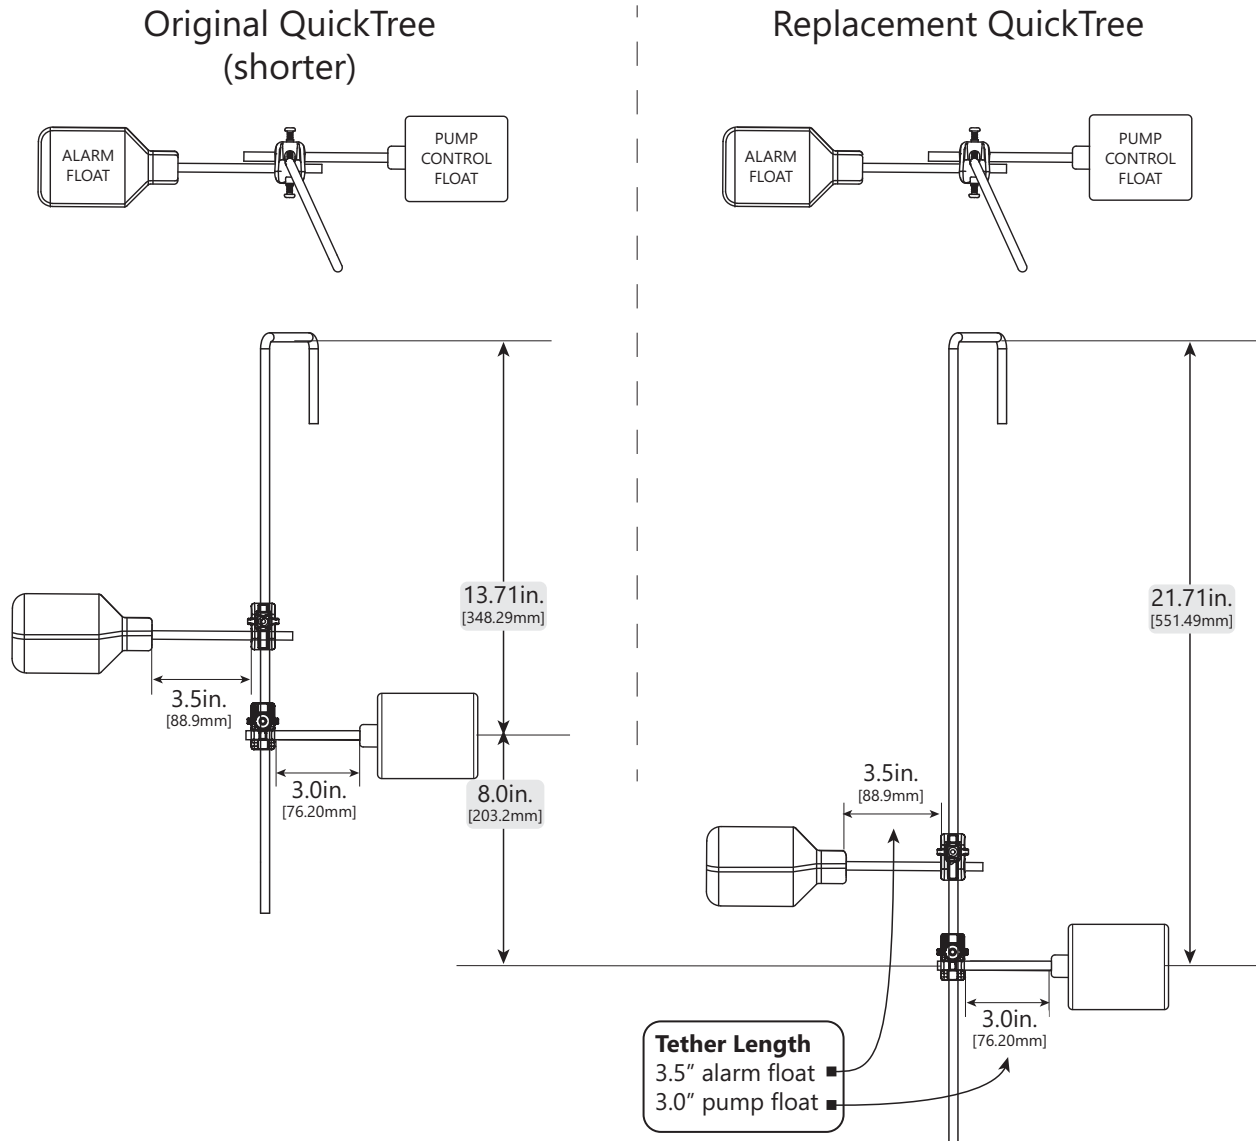
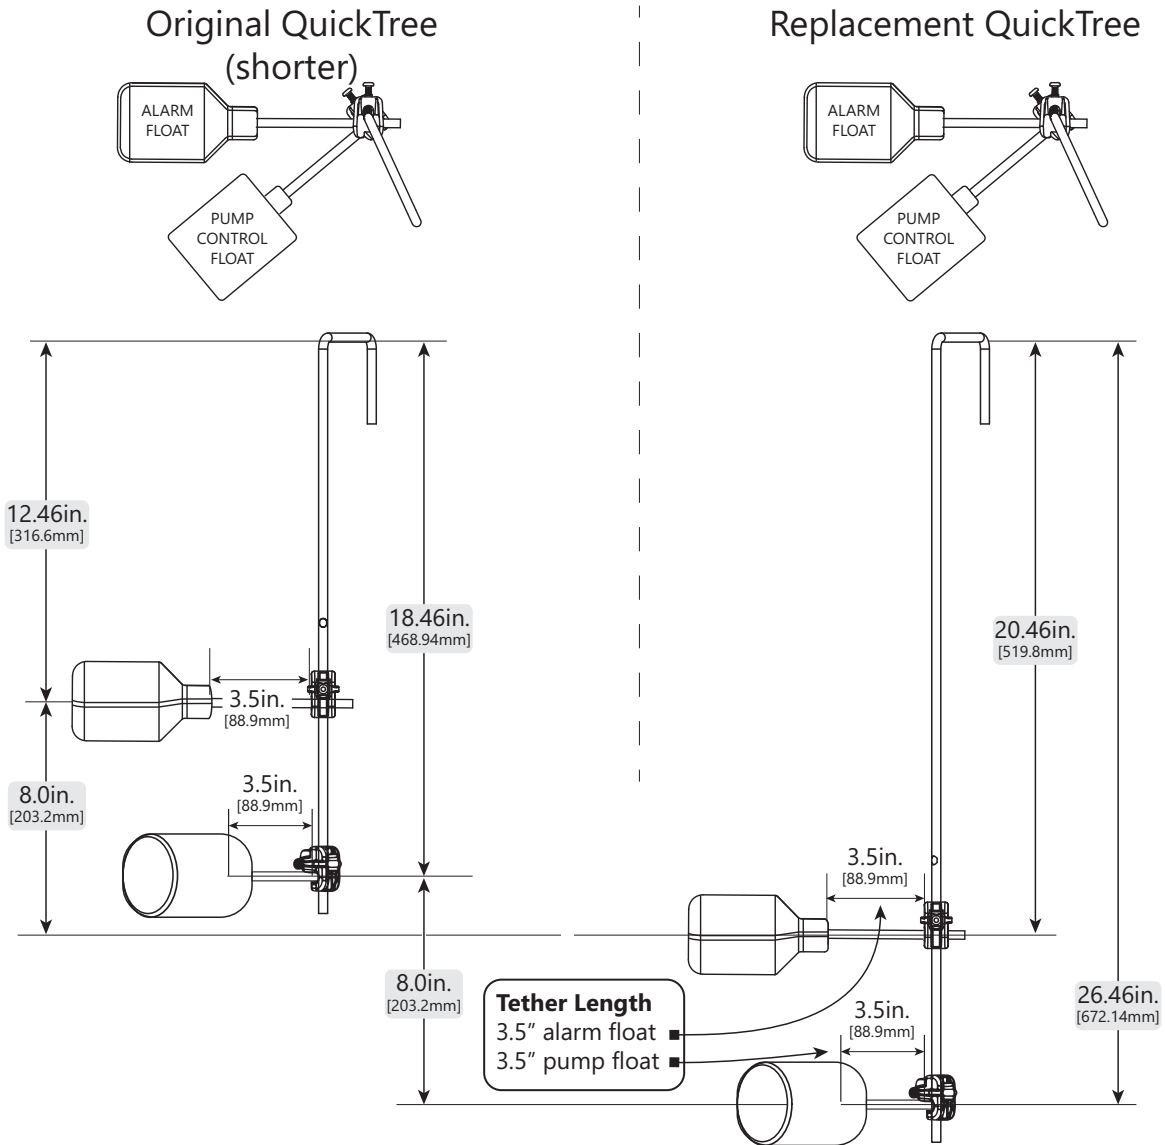

Figure 3
Figure 5
9. Re-attach the float(s) to the new, longer QuickTree rod referencing Figure 3 or Figure 5 (according to system). **IMPORTANT: It is critical that the tether length remains the same after re-installation. The tether length is the cord distance from the clamp to the top of the float ball.**